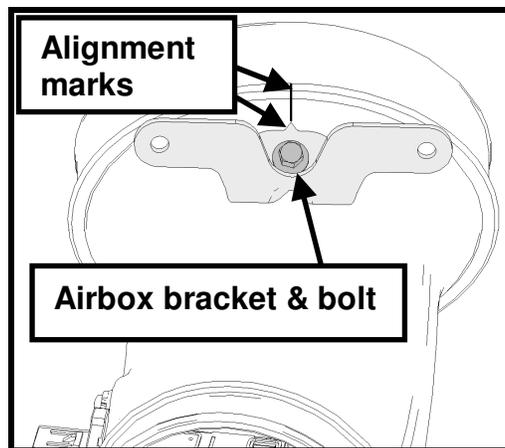

Fig. 29
**STEP 13:** Install the clean air tube support bracket (R07060104) to the clean air tube and position using the alignment marks on both the bracket and the tube. Secure the bracket to the tube using the bolt (N605771) supplied in the kit (See Fig. 29). **NOTE:** Apply medium-strength thread locking compound to the bolt threads prior to installation and torque this bolt to 10 Nm (88 lb in).